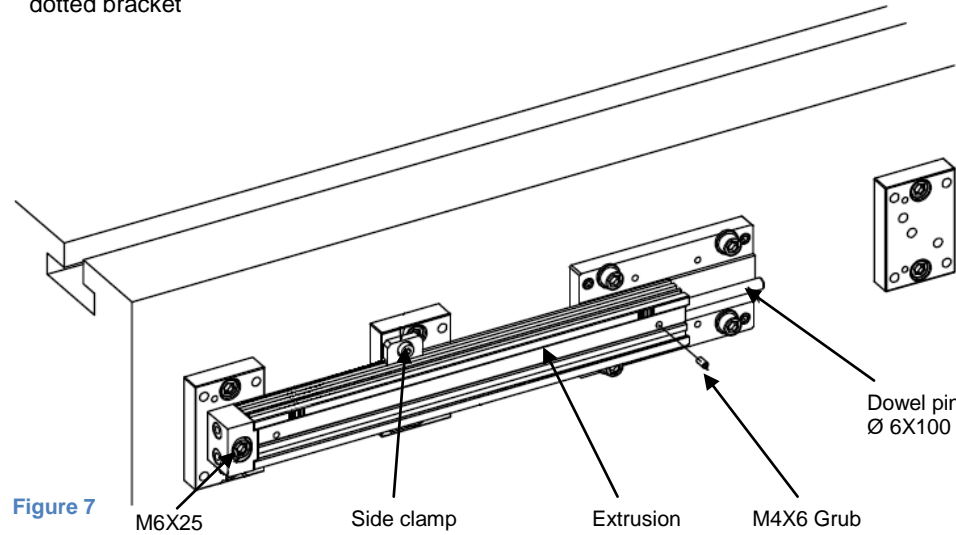

Figure 7
- At approximately every 700mm side clamps should be installed as shown in Figure 7.